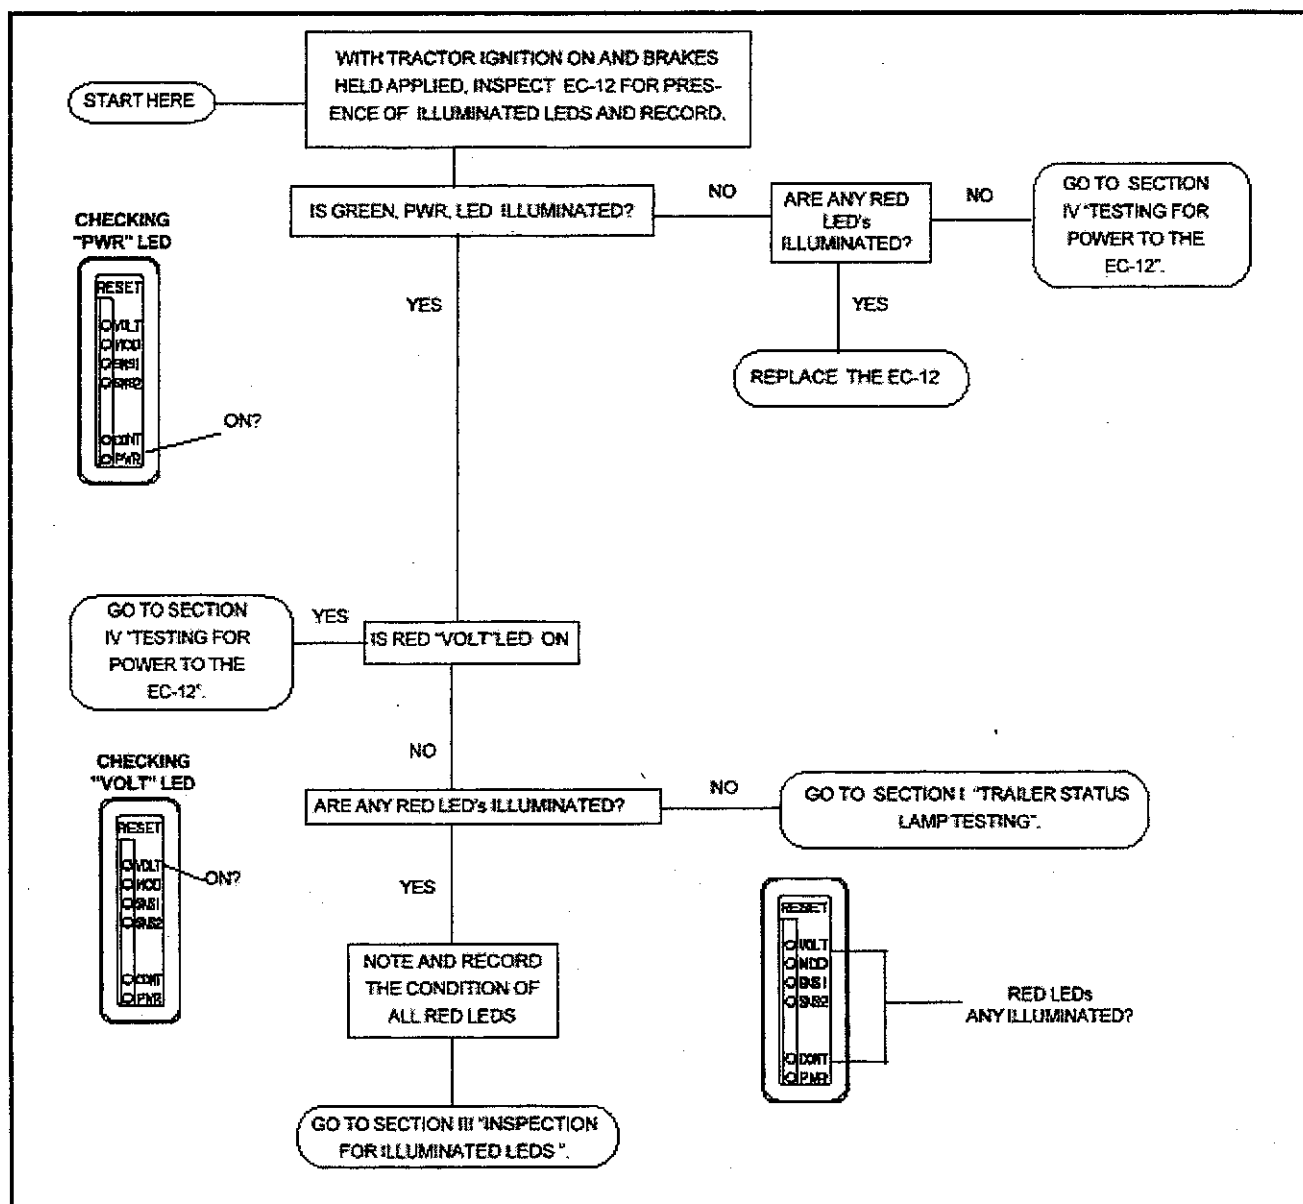

Figure 14—Inspection for Illuminated LED(s)
- See Figure 14—Trailer Status Lamp Testing